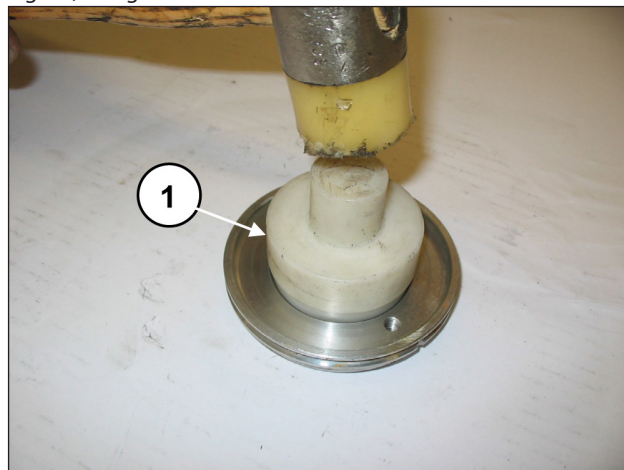

Fig. 93
Mount the radial seal ring onto the oil seal cover (pos. ①, Fig. 93) using a buffer code 27910900.